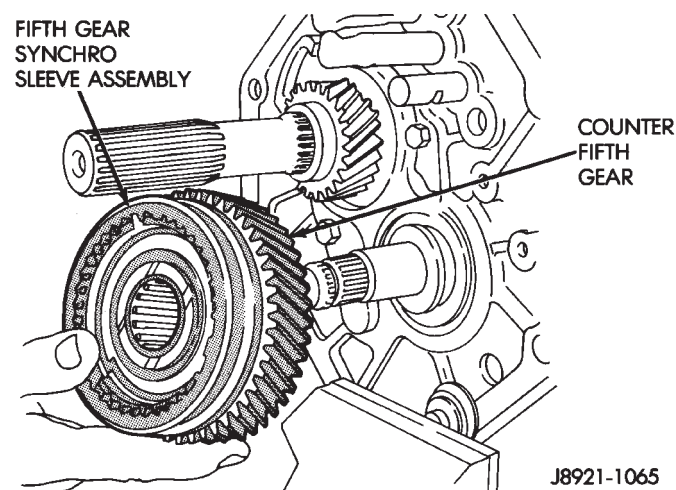

Fig. 54 Remove Fifth Gear and Synchro Assembly
- (6) Remove the countershaft fifth gear assembly from countershaft (Fig. 54).